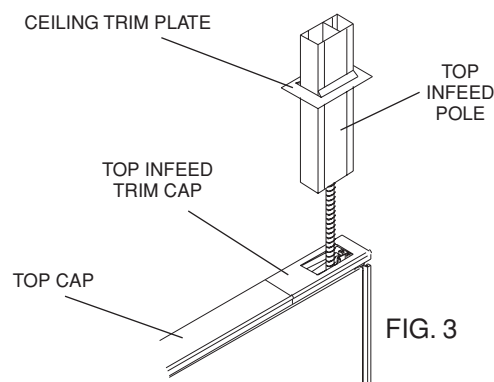

FIG. 3
6. Slide a ceiling trim plate around the top of the top infeed pole. Feed the top infeed harness conduit through the small channel of the top infeed pole. When the conduit has reached the top of the pole, guide the pole into the hole in the ceiling. Continue to feed the conduit into the bottom of the pole until the top infeed pole can be set into the hole in the top infeed trim cap (Figure 3).